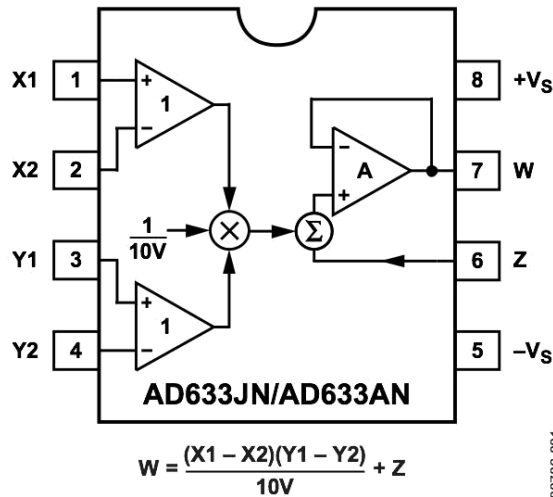

Figure 2: Pinout of the AD633.
- (b) The Analog Devices AD633 is a "multiplier" chip, whose pinout is shown in Figure 2. Its output at pin 7, labeled W, is given by